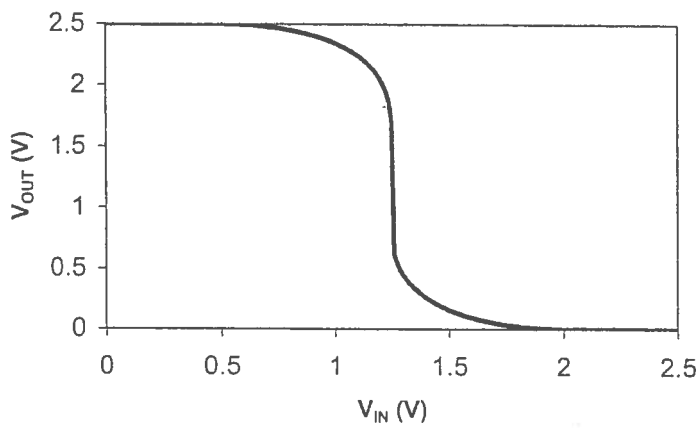

Figure 9.81.
b. The SPICE characteristic is plotted in Figure 9.81.